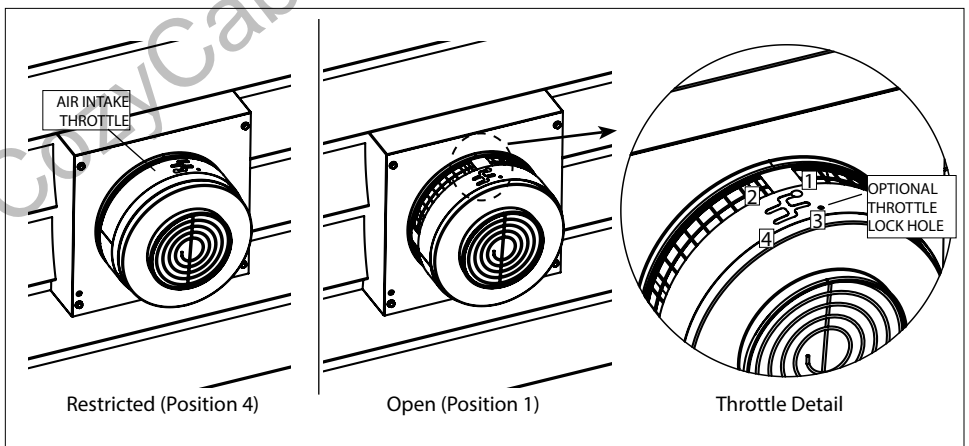

Figure 5- Air Intake Throttle
6. Determine the correct air intake throttle setting (**Fig.5**). This setting is provided by the OEM for your particular appliance. The default is "1- Open." Adjust throttle to required setting (rotate / move). An optional throttle lock hole is provided. A sheet metal screw may be driven to lock the throttle position.